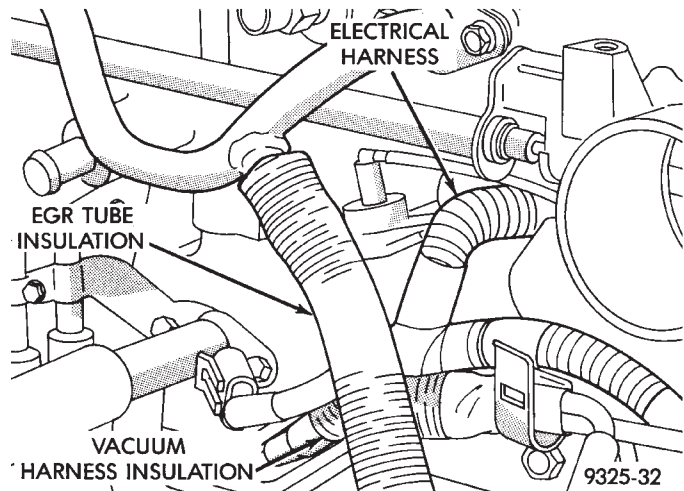

Fig. 12 Insulation on EGR Tube and Vacuum Harness
(2) Tighten EGR tube to EGR valve screws to 11 N·m (95 in. lbs.) torque.
(3) Tighten EGR tube to intake manifold plenum screws to 22 N·m (200 in. lbs.) torque.
(4) Ensure the insulation on the EGR tube aligns with and contacts the insulation on the vacuum harness at the rear of the engine (Fig. 12).